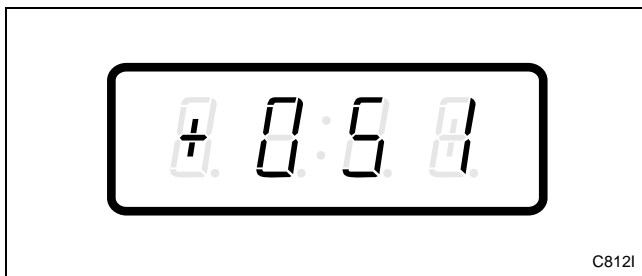

Figure 142
- Press the DELICATES (+) or the COLD (-) keypad to scroll through the programmable options until “+051” appears in the VFD. Refer to *Figure 142*.